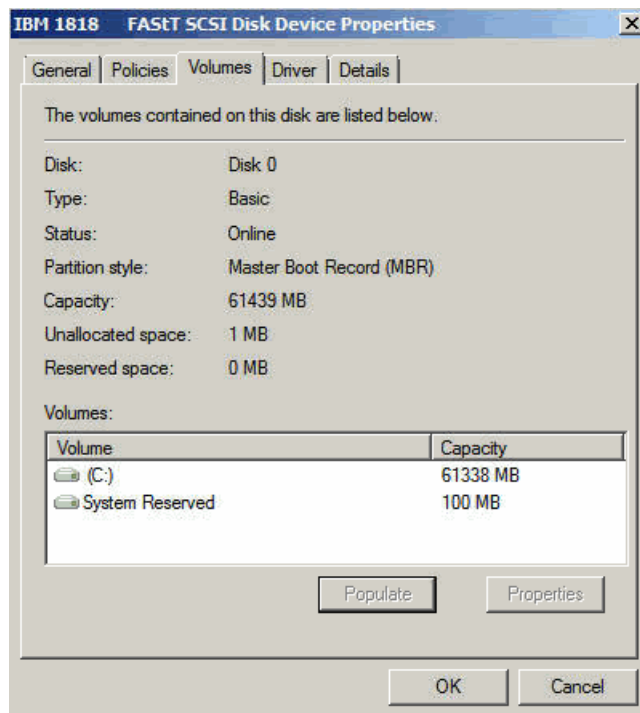

Figure 2-92 Volumes tab populated
6. Here we see the LUN 0, which is our boot LUN, as shown in Figure 2-92.